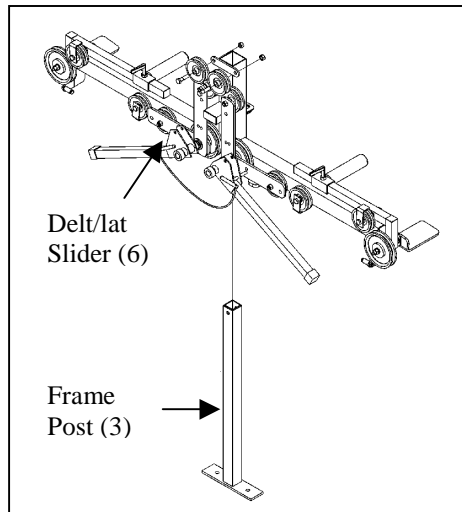
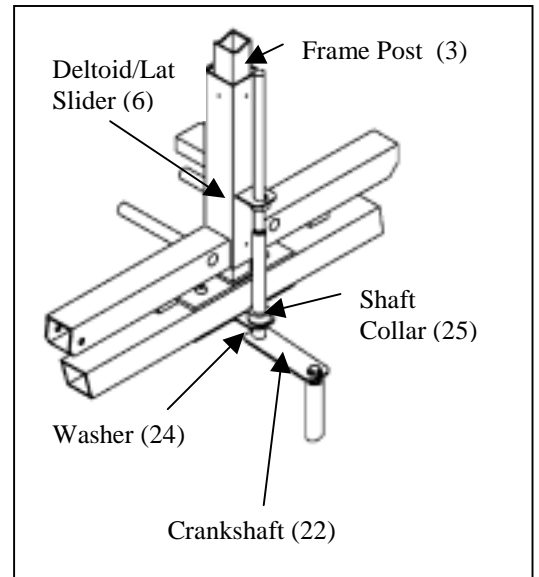

Figure 4
Figure 5
## B. Crankshaft Assembly (Figures 4 & 5)
1. Slide the *Deltoid/Lat Slider* (6) down the *Frame Post* (3) (Figure 4). The pulleys should face the inside of the machine.
2. Remove the *Shaft Collar* (25) and *Washer* (24) from the *Crankshaft* (22).
3. Insert the *Crankshaft* (22) through the square tab on the *Frame Post* (3) replacing the *Washer* (24) and *Shaft Collar* (25), in that order (Figure 5).
4. Now completely thread the *Crankshaft* through the tab on the *Deltoid/Lat Slider* (6) until the *Crankshaft*